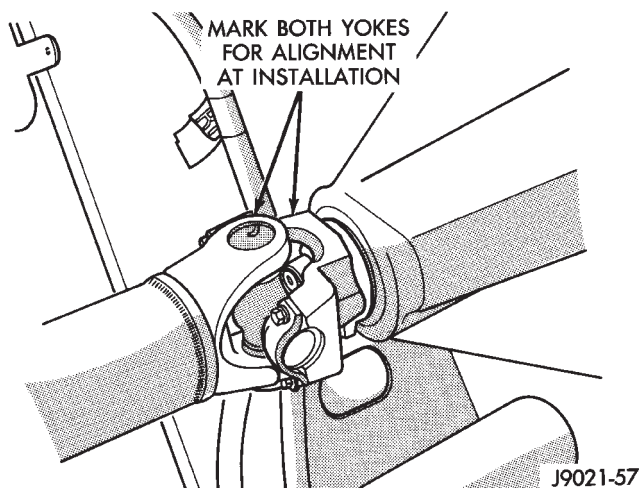

Fig. 3 Marking Propeller Shaft And Axle Yoke
(11) Mark front and rear propeller shafts for installation alignment (Fig. 3). Then remove both shafts.